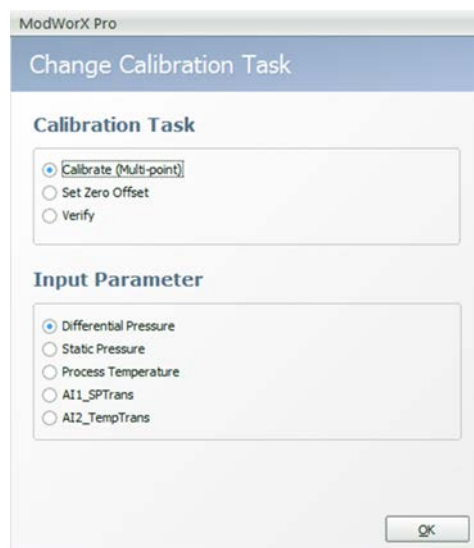

Figure 8.2
The Change Calibration Task dialog will appear (Figure 8.2, page 104). On this screen, the user selects both the calibration task to be performed (calibrate, zero, or verify) and the input parameter to be calibrated (differential pressure, static pressure, or process temperature). If the optional expansion board is installed in a Scanner 2000 or Scanner 210x, or if a Scanner 2200 is installed, the listing of selectable input parameters will include Analog Input 1 and Analog Input 2.
1. On the Change Calibration Task screen, click ***Calibrate (Multi-point)*** as the Calibration task, and click the input parameter of your choice. For this example, Differential Pressure is the input parameter to be calibrated (Figure 8.2).